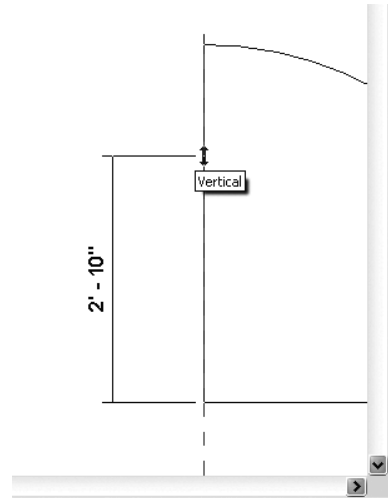

FIGURE 3-1.12 Drawing another Detail Line; 600'-0" vertical line – lower right
- 31. Move the cursor straight up from your first point so that the line snaps to the vertical and the dashed line appears (Figure 3-1.12).